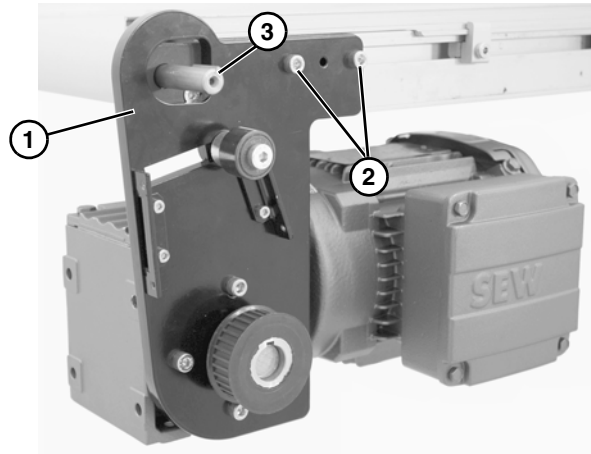

Figure 8
4. Attach mounting assembly (Figure 8, item 1) with screws (Figure 8, item 2). Tighten to 80 in-lb (9 N-m).
5. Install key (Figure 8, item 3).